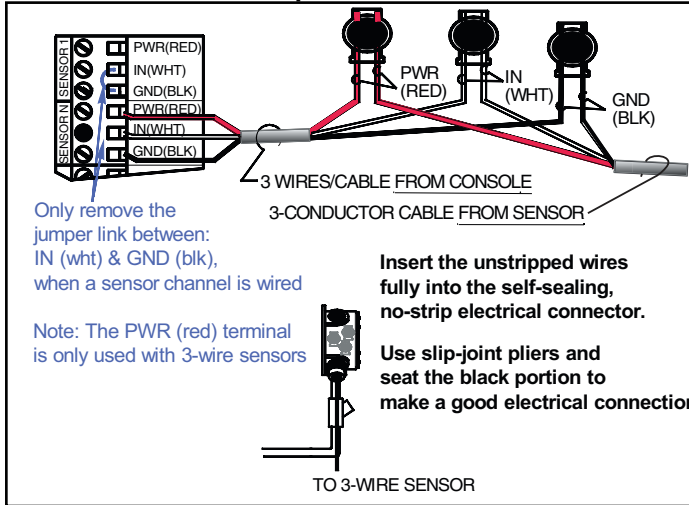

Figure 4: TSP-DIS/TSP-EIS Wire Splicing and Console Wiring
6. Pull the sensor cables through the cord grip fitting at the junction box and tighten all remaining cord-grip fittings. Trim wire/cables to a 6 or 8 inch (15 or 20 cm) service-loop and splice the sensor and console wires together per Figure 4 .
Reference the ATG Installation Manual and see Figure 4 for sensor wiring details.